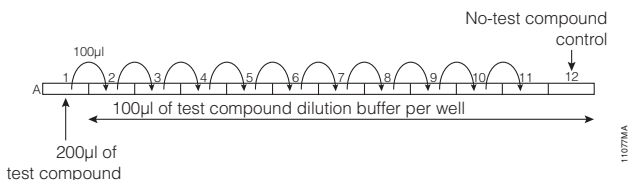

Figure 8. Dilution scheme for test compound.
4. Prepare a twofold serial dilution of test compound by transferring 100 μ l from well A1 to well A2, pipetting to mix. Transfer 100 μ l to well A3. Repeat for wells A4 through A11. See Figure 8. Discard the extra 100 μ l from well A11. Do not add any compound to the control reactions in well A12.